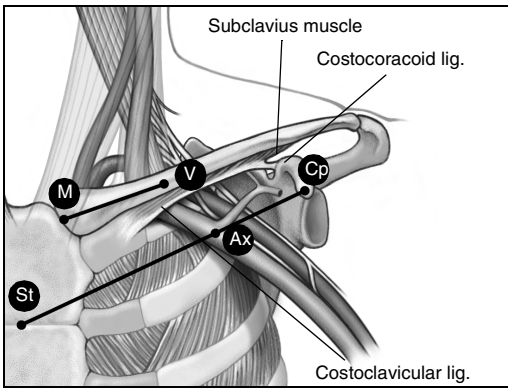

Figure 8. Landmarks identify the entry point for a percutaneous subclavian venipuncture.
1. Referring to Figure 8, identify points St (sternal angle) and Cp (coracoid process).